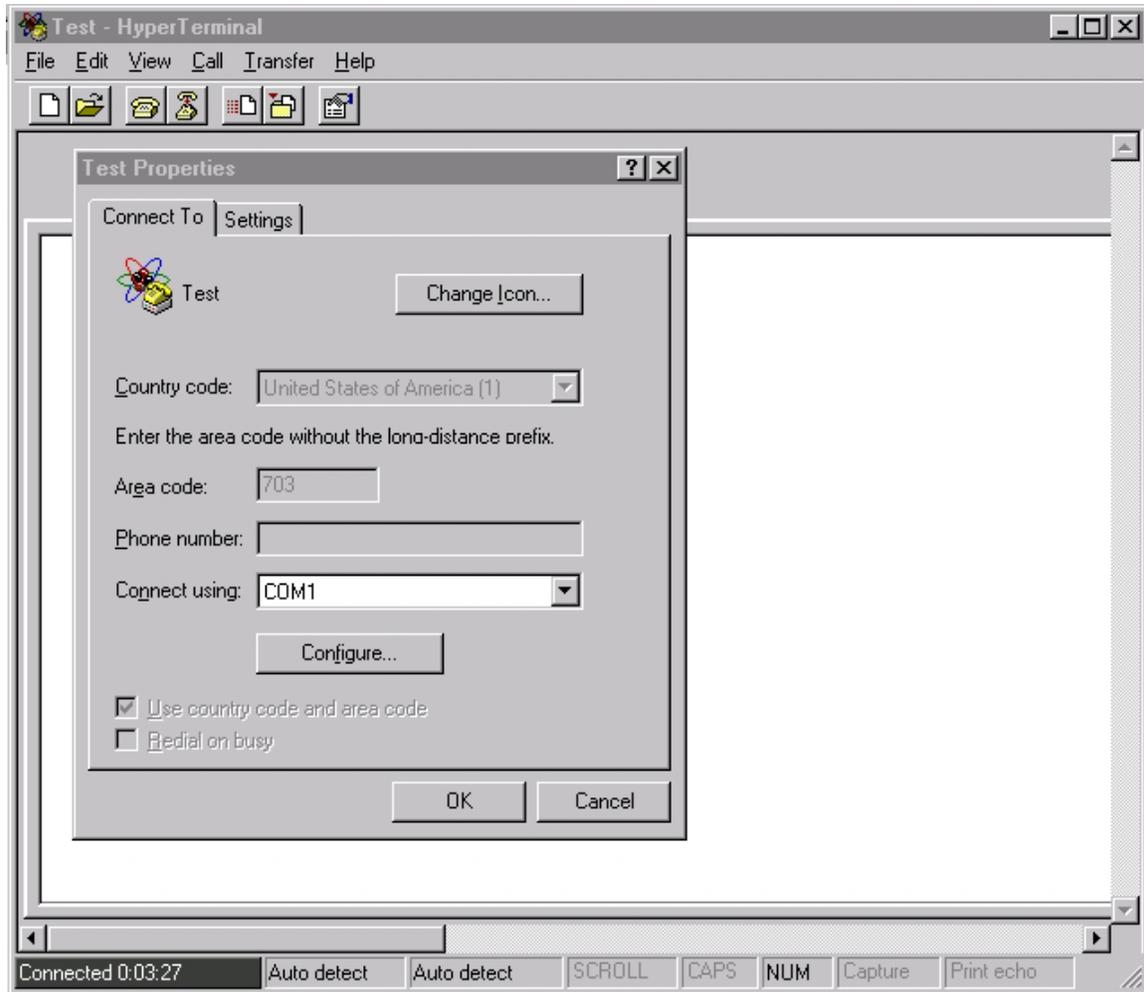

Fig. 12. Hyper Terminal. Select a serial port
7. Select the serial port COM1 or another if COM1 port is occupied as shown in Fig. 12.